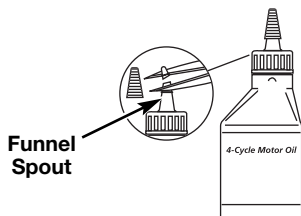

Fig. 2
Your unit is supplied with one 3.04 fluid oz. (90 ml.) bottle of SAE 30 SF, SG, SH oil (Fig. 2).
1. Unscrew the top of the bottle of oil and remove the paper seal covering the opening. Replace the top. Next, cut the tip off the funnel spout (Fig. 2).